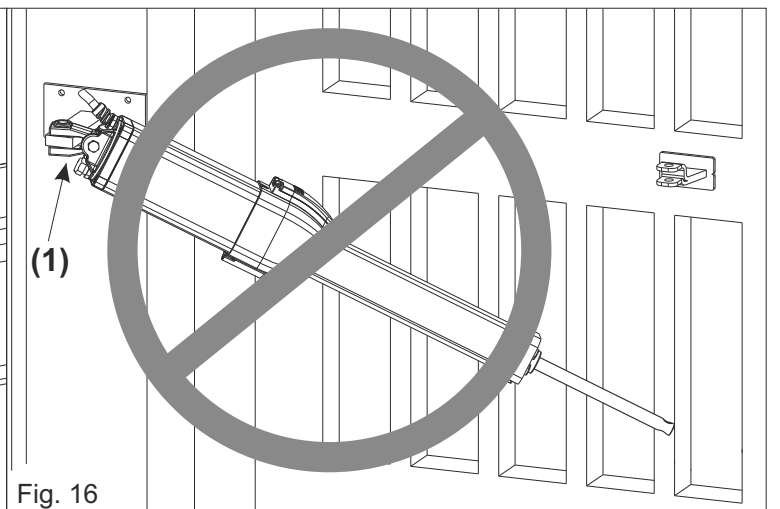

Fig. 16
**DO NOT incline the hydraulic operator further than the oscillating fork allowed angle (1), it may cause its breaking (Fig. 16)**